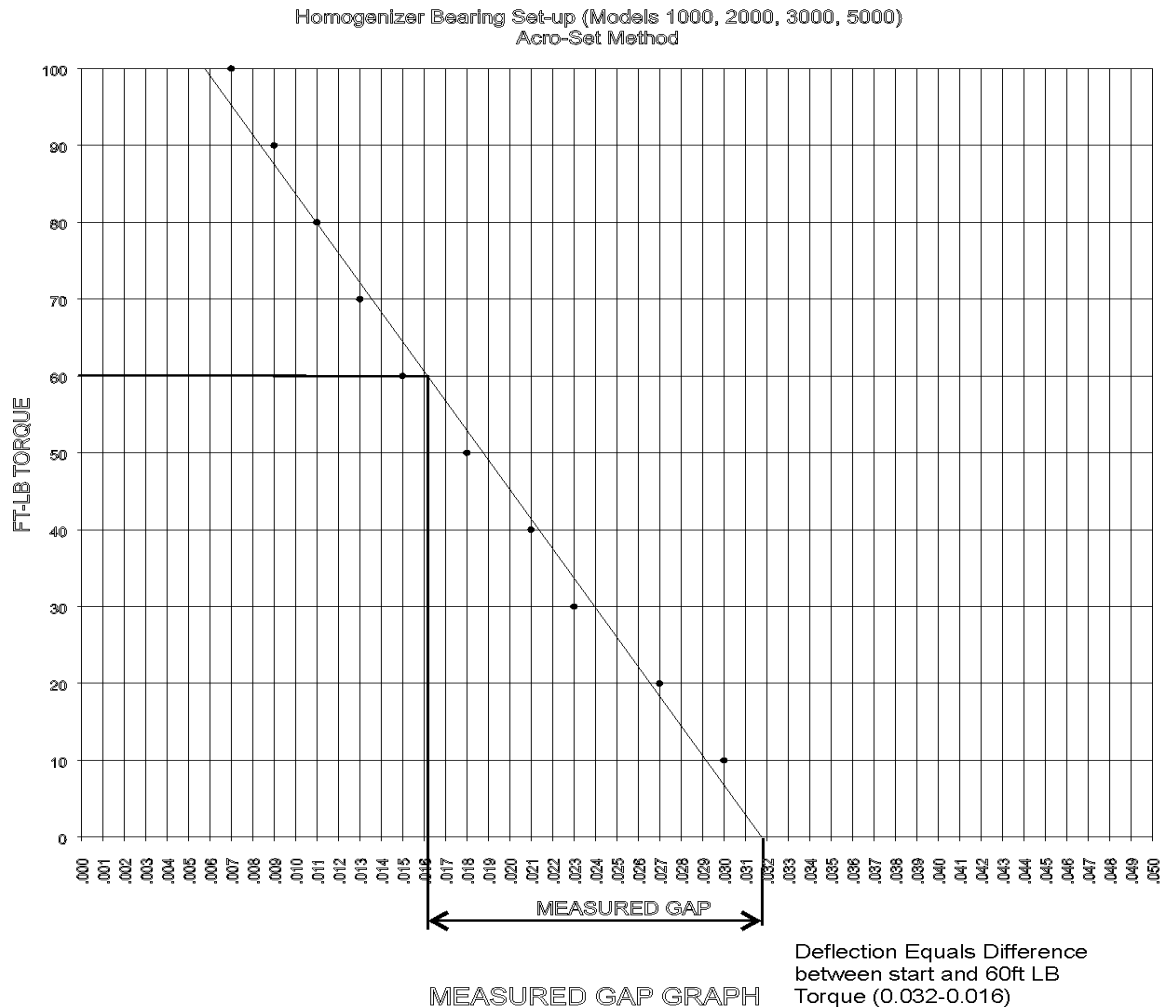
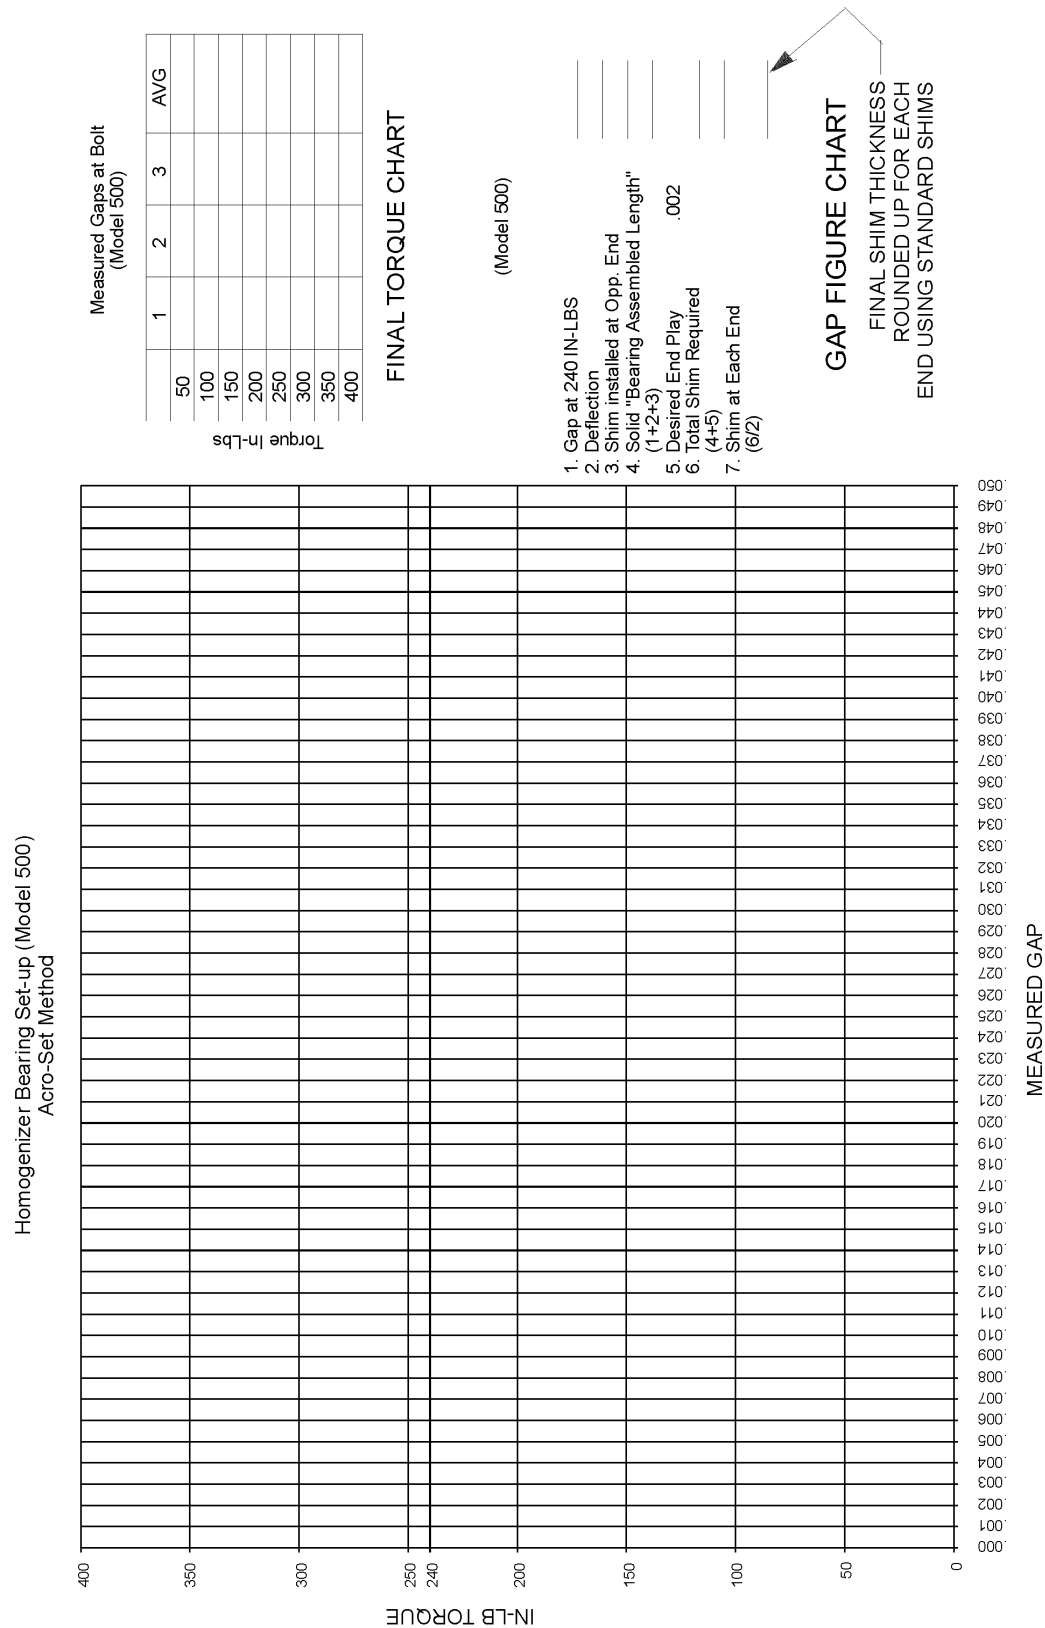
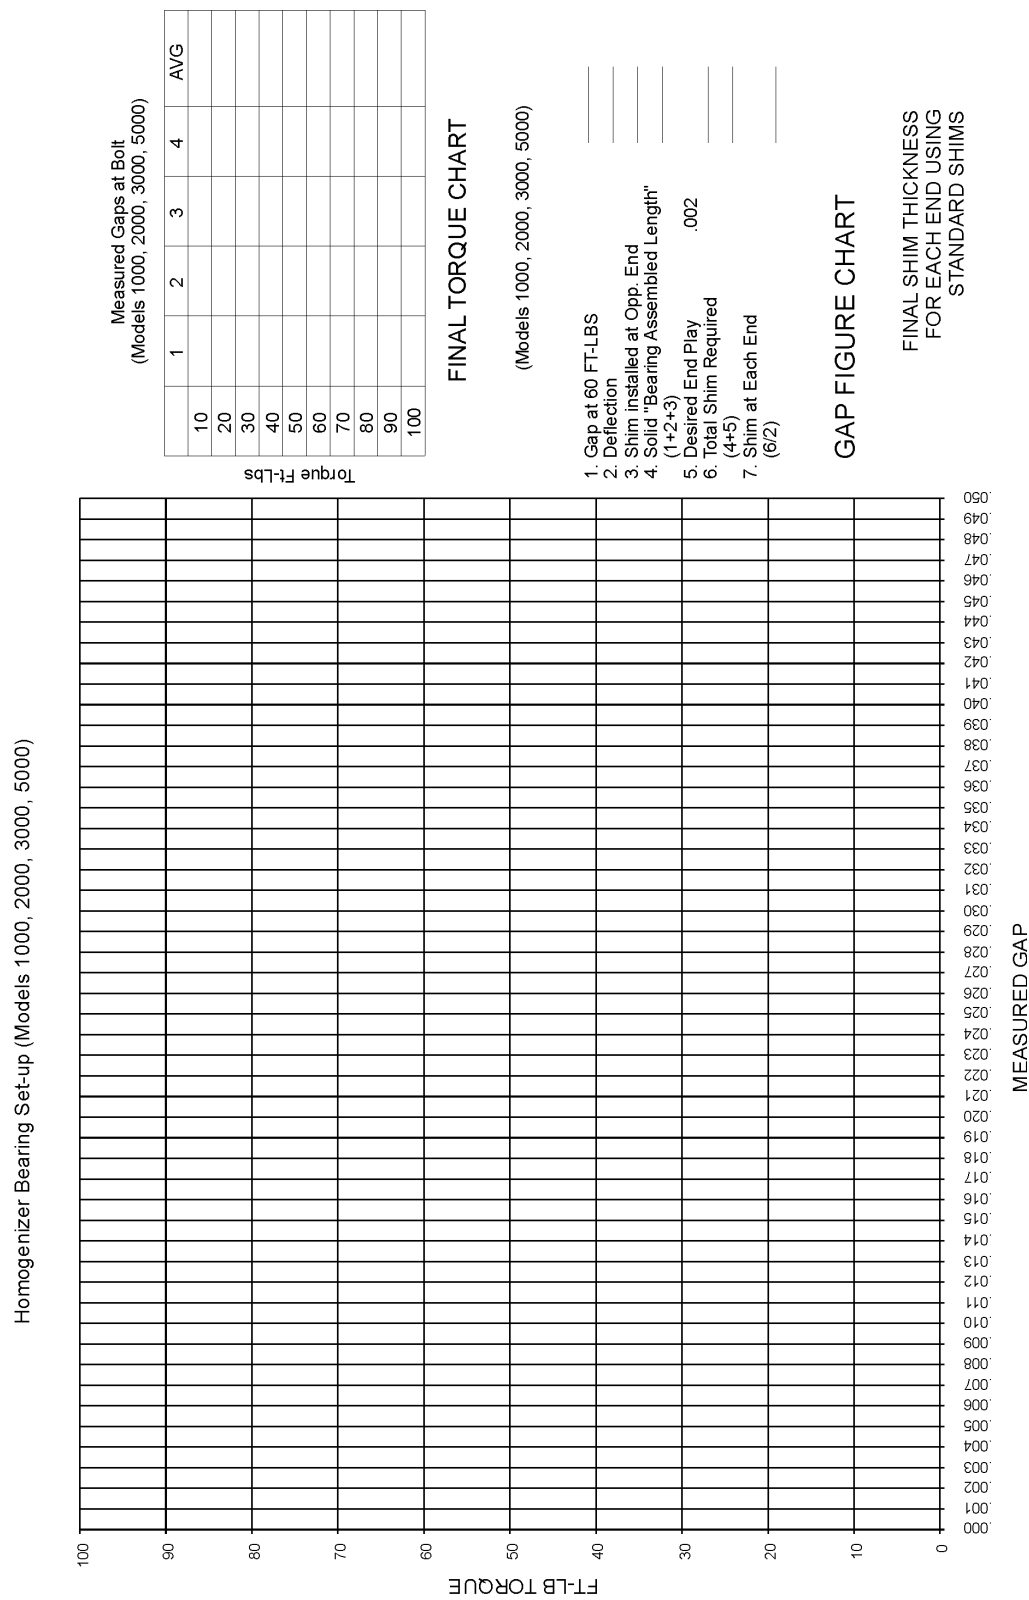

Figure 73 Torque Chart Example For Models 1000, 2000, 3000, and 5000
Figure 74 Blank Chart for 500 Model
Figure 75 Blank Chart for Models 1000, 2000, 3000, 5000
7. Torque bolts on non-drive end to 1st torque value in final torque chart and record gap for all bolts. **For example See Figure 73. For blank charts see Figure 74 and Figure 75.**
10. Calculate measured gap averages for all bolts at each torque value and record this value in torque chart See Figure 74 on page 72 or See Figure 75 on page 73.
14. Fill out the gap figure chart (Figure 72) as follows: **For example See Figure 73. For blank charts see Figure 74 and Figure 75.**